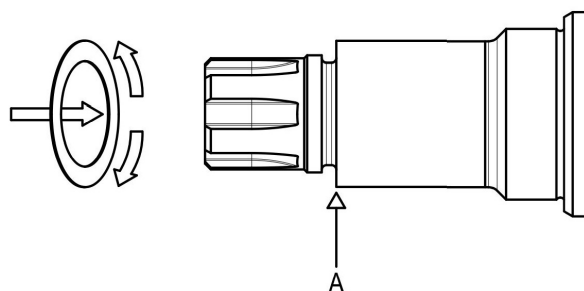

Figure 32 - Fitting shims
- With the pump assembled, the end cover (122) removed (see 6.1 END COVER), and the rotors (56) (see 6.2 ROTORS) and rotor case (1) (6.7 ROTOR CASE) fully secured to the correct torques.
- If the clearance is incorrect (to Table 6 – Rotor clearances) remove the rotors (56) (see 6.2 ROTORS).
- Remove the O-rings (31) and shims (30), the shims are cut to allow them to slide over the shaft.
- To fit the shims open them slightly and slide onto the shaft up to the shoulder (A) (Figure 32).